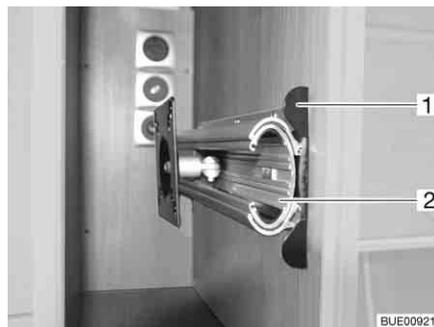

Fig. 89 Holder in the TV cabinet
- Push the unlocking bar (Fig. 89,1) in.
- Pull out the extension (Fig. 89,2) as far as possible.
- Push in the extension (Fig. 89,2) until the unlocking bar (Fig. 89,1) engages.